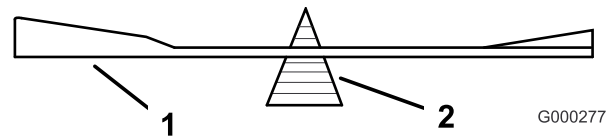

Figure 94
2. Check the balance of the blade by putting it on a blade balancer (Figure 94).
3. If the blade is not balanced, file some metal off the end of the sail area only (Figure 94).